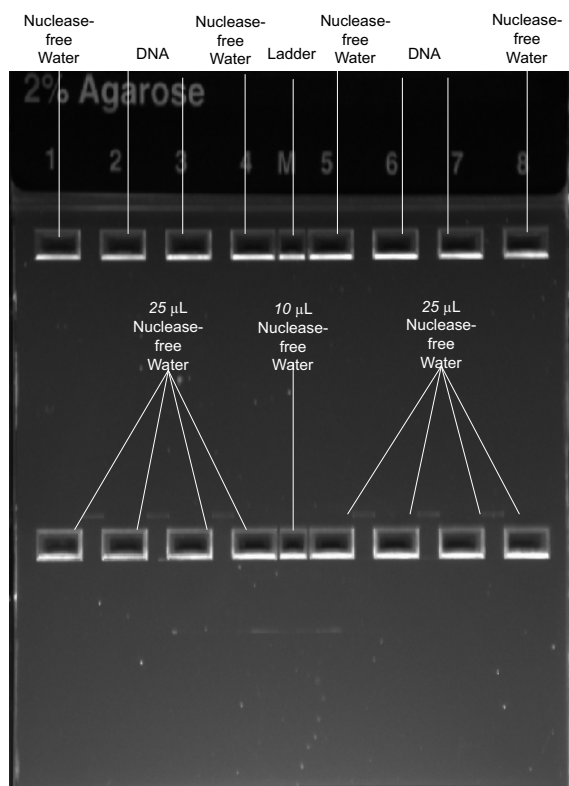

Figure 14 Where to load DNA, ladder, and Nuclease-free Water on a SOLiD™ Library Size Selection gel to size-select the DNA.
4. Load  $\leq 500$  ng of sample in 25  $\mu$ L volume without loading dye into the wells of the *top* row. Use Nuclease-free Water as diluent if necessary. Skip the center well (smaller well in the top center of the gel for the ladder); and skip a single well to the right and left of the center top well. Skip the two outermost wells (to avoid edge effects). Do not load more than 500 ng of DNA per lane (see Figure 14 on page 83).
5. Mix  $0.5 \mu\text{L}$  of  $1 \mu\text{g}/\mu\text{L}$  of 100 bp DNA Ladder (Invitrogen, 15628-050) with  $20 \mu\text{L}$  of Nuclease-free Water. Load  $10 \mu\text{L}$  of the diluted DNA ladder into the small middle well of the top row (marked “M”); see Figure 14).
7. Load  $25 \mu\text{L}$  of Nuclease-free Water into wells 1 to 8 in the *middle* of the gel and  $10 \mu\text{L}$  of Nuclease-free Water in the middle marker well of the bottom row (see Figure 14).